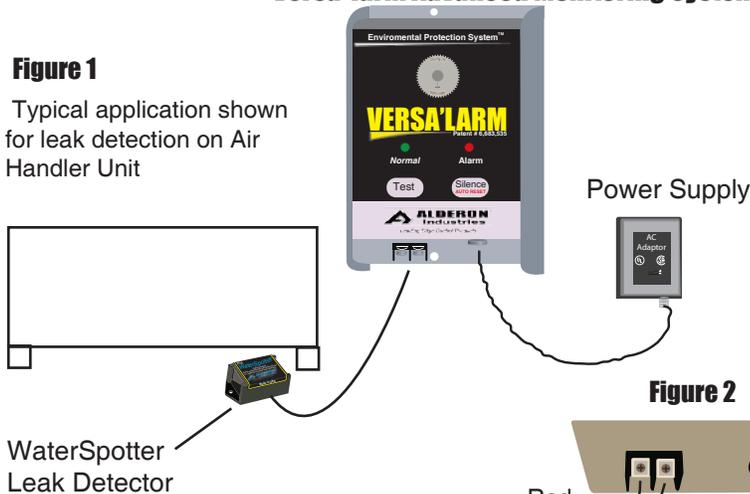

Figure 2
3. Connect the WaterSpotter to the VERSA'LARM. CAUTION! - Red wire must be connected to the "left" terminal and the Black wire must be connected to the "right" terminal. See Figure 2.